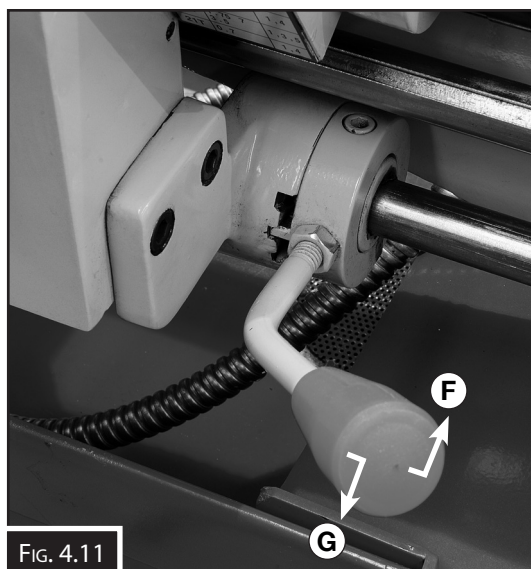

FIG. 4.11
6. Move the Spindle Start lever up (F in Fig 4.11). Spindle should rotate clockwise (as viewed from top) and machine should run smoothly with little to no vibration or rubbing noises.
7. Move the Spindle Start lever down to the middle position (F in Fig. 4.11) and wait for spindle to a complete stop.
8. Move the Spindle Start lever down (G in Fig. 4.11). Spindle should rotate counterclockwise (as viewed from top).
10. Without resetting EMERGENCY STOP button, Move the Spindle Start lever up to start the spindle (F in Fig. 4.11) Machine should not start.